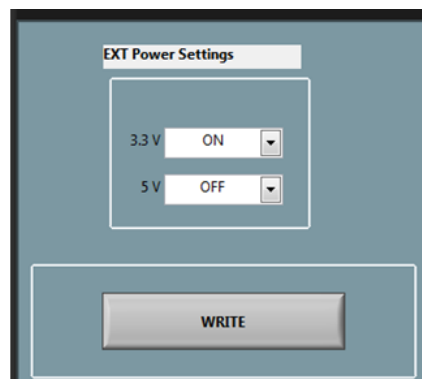

Figure 3. EXT Power Settings
2. As a first step before sending a V_{OUT} command, click the write command On the EXT Power Settings block as shown in Figure 3.